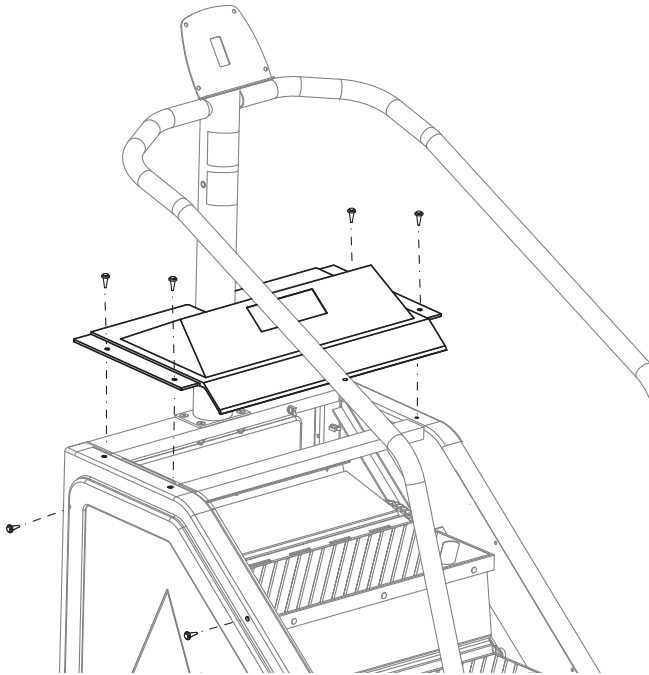

Figure 6A
**6-1** Remove the top Rivets and upper side Rivets on both left and right side covers to install the Top Cover (Figure 6A). It may be necessary to pull the sides out slightly to insert the Top Cover under the side covers.